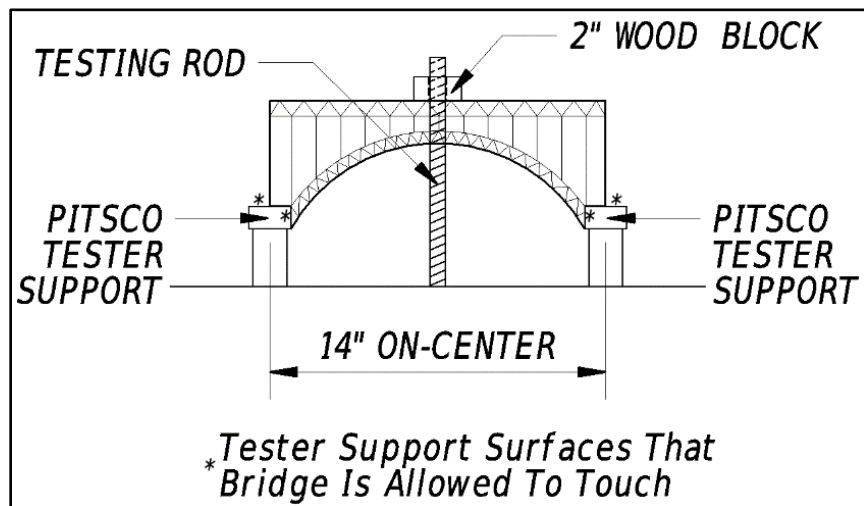
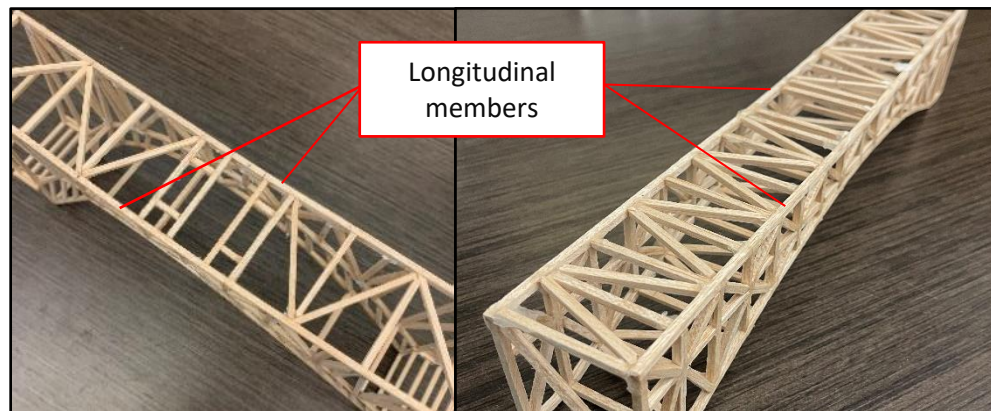

Figure 7. Tester Configuration Detail
Figure 9. Acceptable Cross Framing
- e) End to end, the length of the entire bridge must be 14 inches, refer to Figure 7.
- g) The area where the bridge will be loaded (center of the bridge) must have at least a $\frac{3}{4}$ -inch hole to allow a $\frac{5}{8}$ -inch testing rod to pass through. The rod must also be able to pass through full height of the structure to insert the rod into the tester. This is required to attach the rod to a 2-inch x 2-inch block of wood used for strength testing by the Pitsco Tester. An example configuration can be seen in Figure 7. The block of wood must be able to be pushed across the top surface of the bridge (a bridge deck of any kind is not allowed). No more than 2 longitudinal members will be permitted in the top of the bridge structure (refer to figures 9 & 10 for more detail). Please note, figures do not represent the required design and shall only be used for reference.
- h) Tester supports will be placed at 14 inches on center. Support dimensions are shown above in Figure 7.